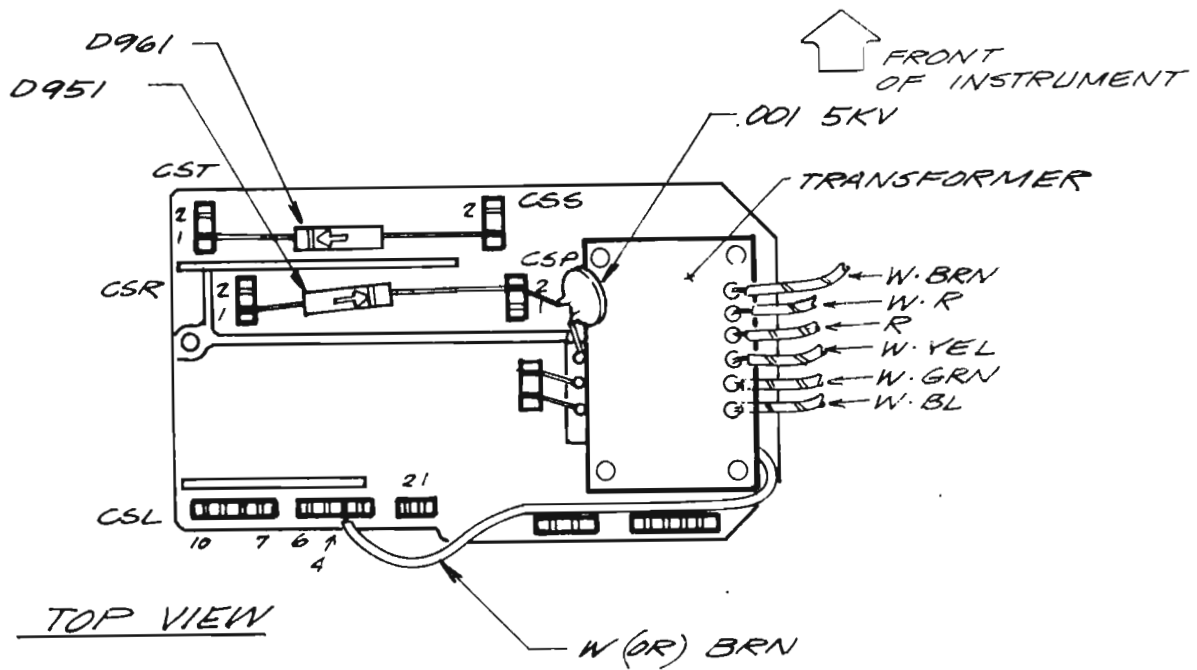

FIG. 1
- () 12. Install D951 and D961, HV silicon diodes, from the kit, as shown in Fig. 1.
- () 14. Install the new HV transformer, from the kit. Wire as shown in Figs.1 & 2.